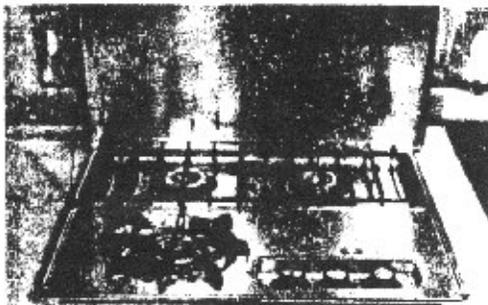

figure 1
- 1. Remove stove lid by removing the center screw. (fig. 1)